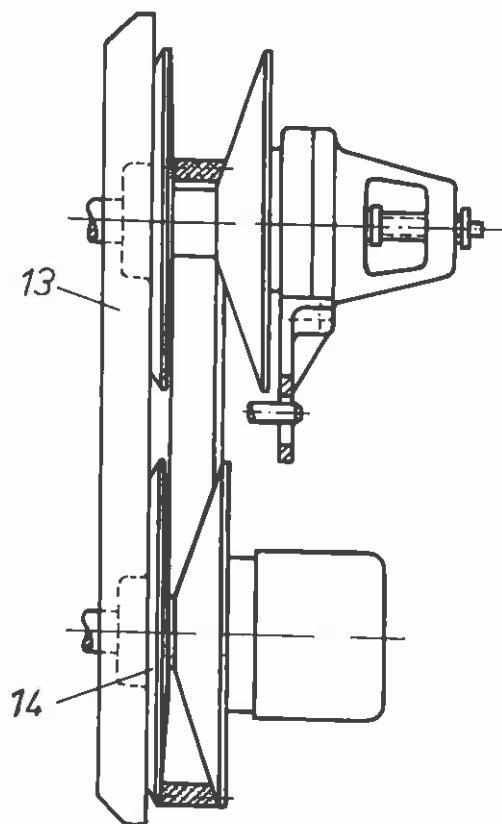

Fig. 1/19
21. ALIGNING THE SETS OF REGULATING DISCS (fig. 1/12)